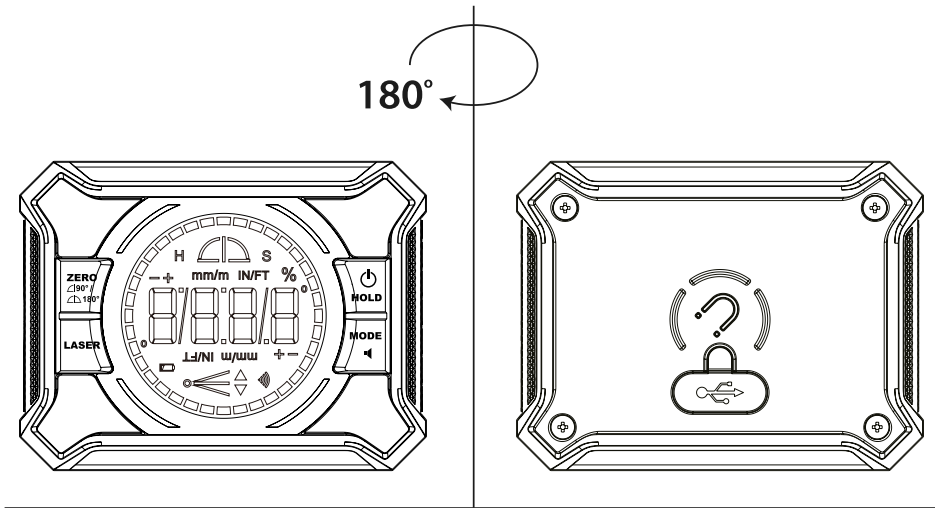

Figure 3
- Press and hold (1) button to turn the device off. Place the device on a flat surface. Press and hold (4) and then press (1) until CAL1 appears on the display.
- Release both buttons. Without moving the device, press (4). CAL1 starts flashing and then changes to CAL2.
- Rotate the device 180° and then press (4). CAL2 will start flashing. When CAL2 disappears, the calibration is complete (Fig. 3).